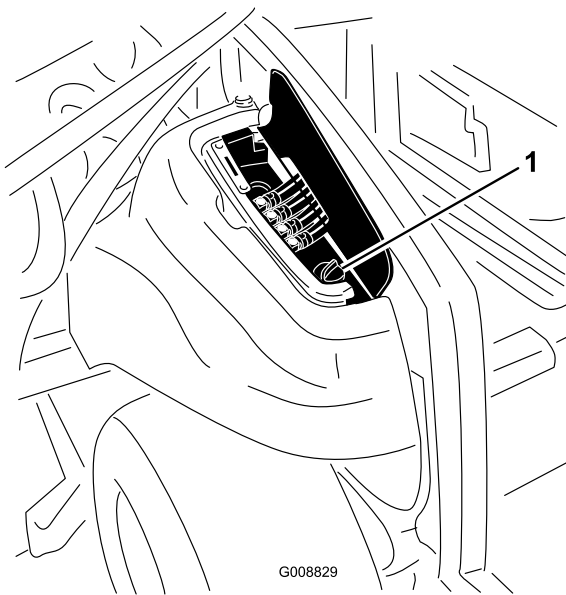

Figure 86
2. On the right side of the machine, raise the access cover to expose the hydraulic tank cap (Figure 86).
3. Clean the area around the filler neck and cap of the hydraulic tank (Figure 86). Remove the cap from the filler neck.